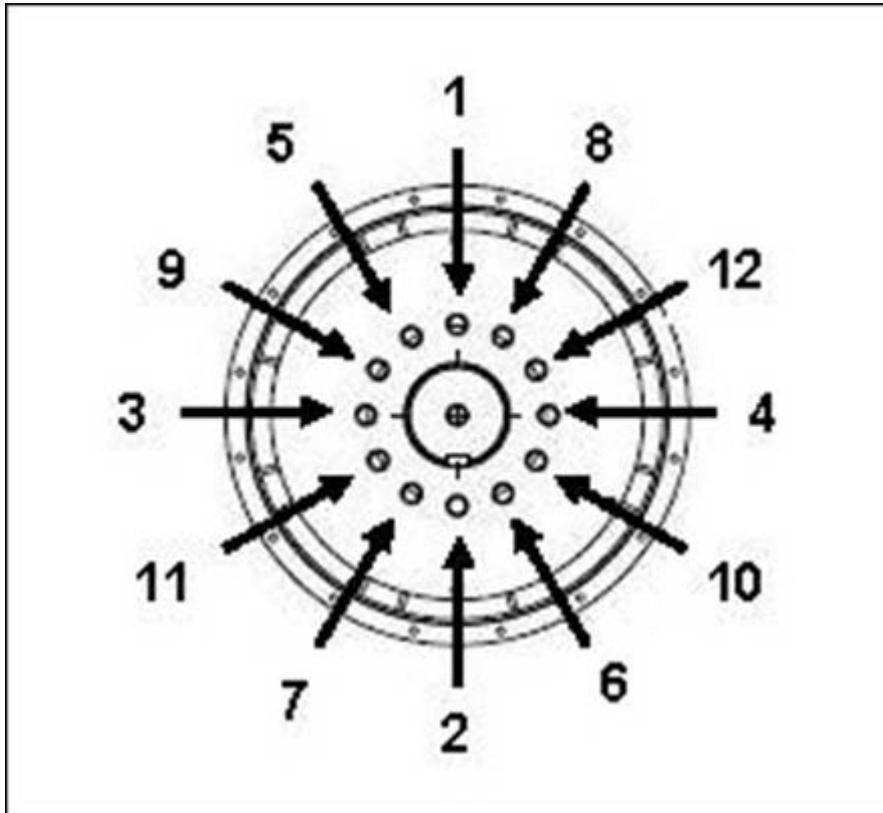

FIGURE 17. FIXING SEQUENCE TO HUB
4. If required, tighten the coupling disc bolts in the sequence shown in Figure 17 on page 31.